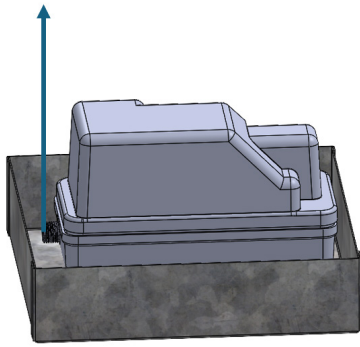

Fig. 36 Pump (non filtered trap)
- The tubing goes behind the case, where it is held in place with pipe straps and routed into the CDU evaporator pan/tray through the access port in the CDU housing, if equipped. See Figs. 36 and 37.